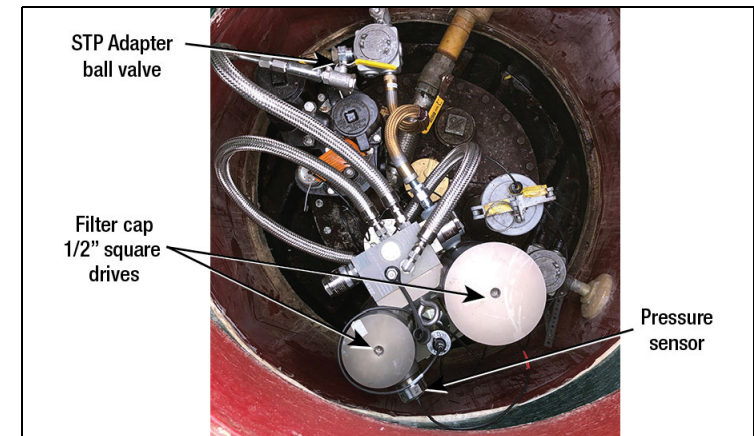

Figure 1.
2. Close the STP Adapter ball valve to isolate the Fuel Conditioner unit from the pump (see Figure 1).
11. Re-open the STP Adapter ball valve (see Figure 1).